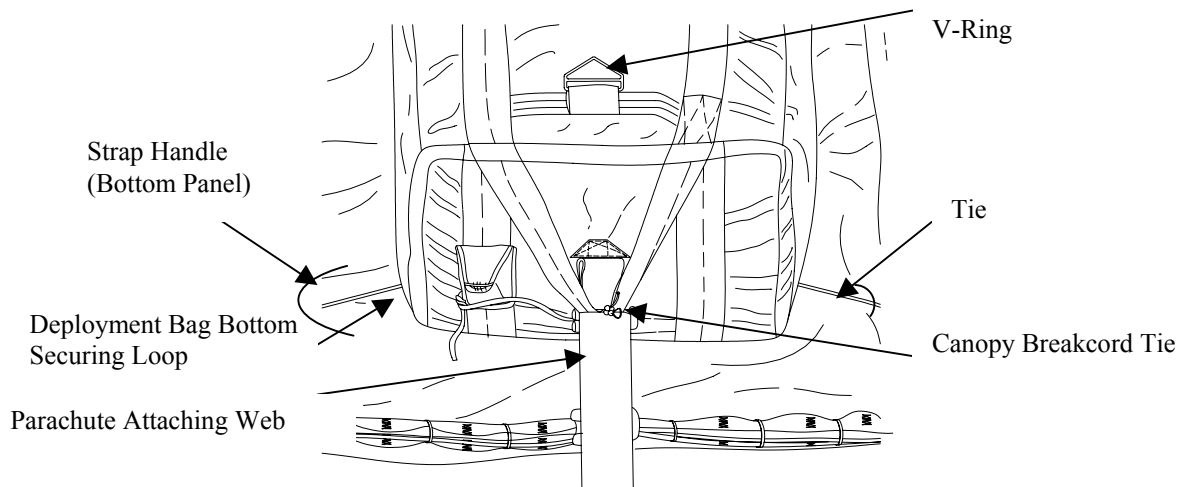

Figure 2. 28' Extraction Parachute Secured to Extraction Line Bag.
- d. Route the type III nylon cord one turn single, through canopy bridle loop, around deployment bag bridle loop straps and through connector link. Secure tie with a surgeon's knot, locking knot and overhand knot in running end (figure 2).